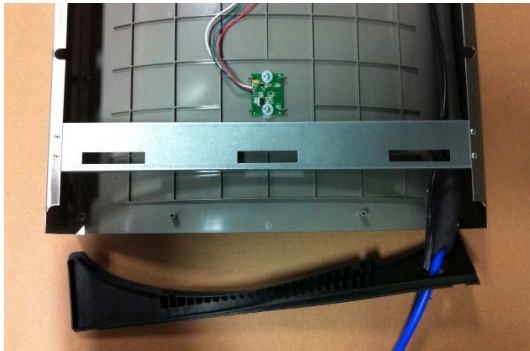

Fig. 8
- 5) **Feed power cord & 3/8" water line** through hole in tower/basin gasket (See Fig 8).